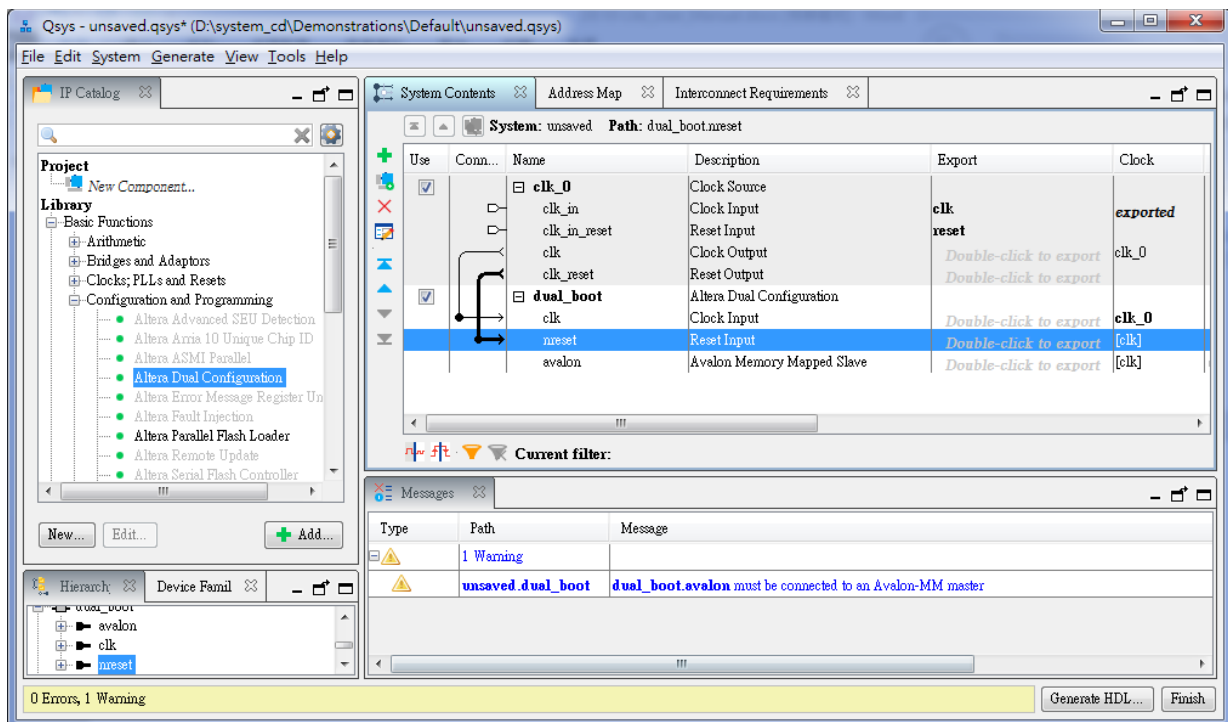

Figure 6-7 Rename and connect dual boot IP OK
- Click **Finish** to close the wizard and return to the Qsys window. Choose **dual_boot_0** and click right key to select **Rename** it to **dual_boot**, and connect the **clk** and **nreset** to **clk_0.clk** and **clk_0.clk_reset** as shown in **Figure 6-7**.